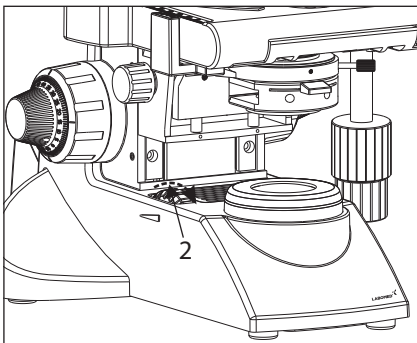

Fig. 21
2. Rotating the light intensity adjustment knob (Fig. 21) in the direction of the arrow increases brightness and rotating knob in the opposite direction decreases brightness. The intensity bar next the knob indicates the direction of intensity level.